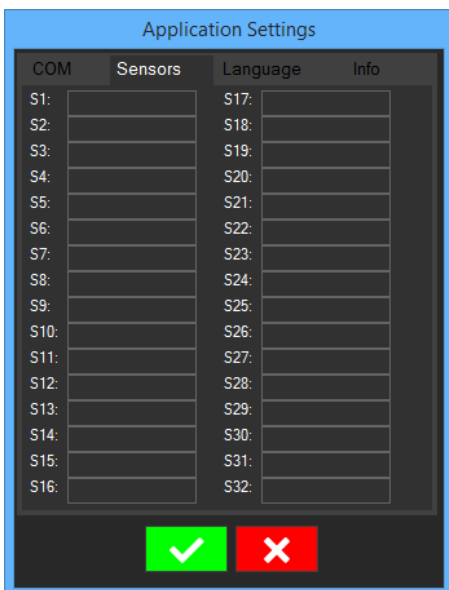

Figure 7
4. Click on the tab **Sensors** (Figure 7) to set an optional label for every sensor (12 characters are the maximum allowed length).